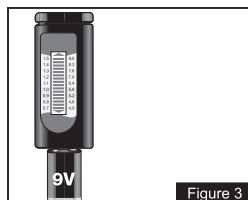

Figure 3
#### Testing A 9-Volt Battery ( Figure 3 )
- 1 Position the tester and the battery as indicated in the Figure 3 ( + to the +, and - to the - terminal ).